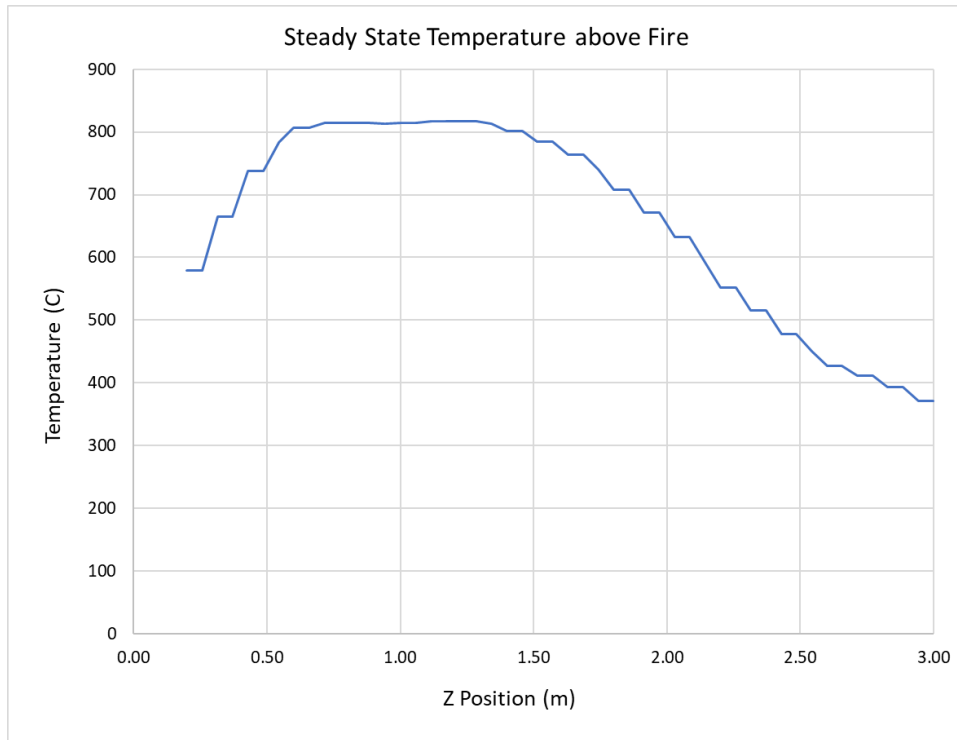

Figure 11. Line plot of steady state temperature above fire
2. Plot the output data (Figure 11).